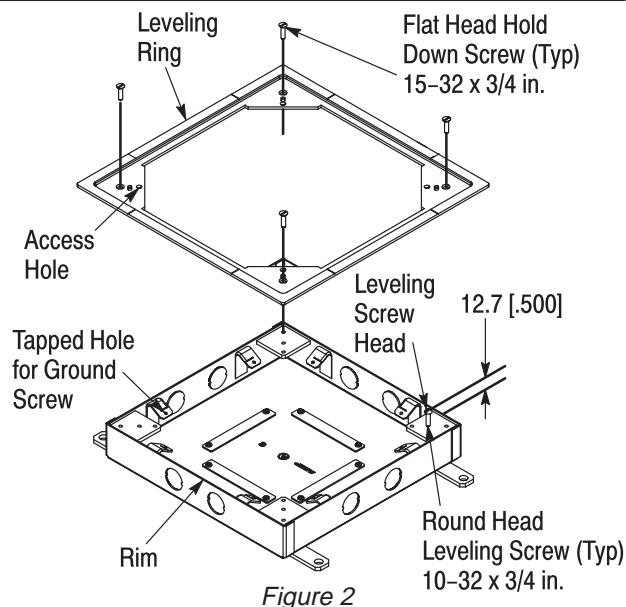

Figure 2
4. INSTALLATION (Figure 2)
1. Install four 10-32 x 3/4 in. round head leveling ring screws as shown in Figure 2.